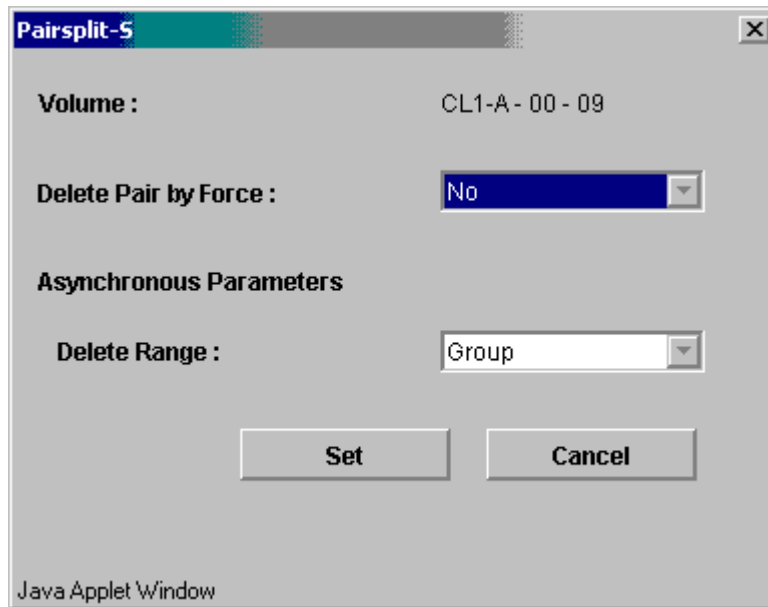

Figure 5.15 Pairsplit-S Panel for Synchronous and Asynchronous Pairs
The Pairsplit-S panel (see Figure 5.15) allows you to delete TrueCopy pairs and select the pairdelete options. To open the Pairsplit-S panel, select the **Pair Operations** tab, select any item in the outline list (subsystem, CU image, or port), select the desired pair(s), right-click, and then select **Pairsplit-S**.
4. Right-click, and select **Pairsplit-S** to open the Pairsplit-S panel (refer to Figure 5.15).